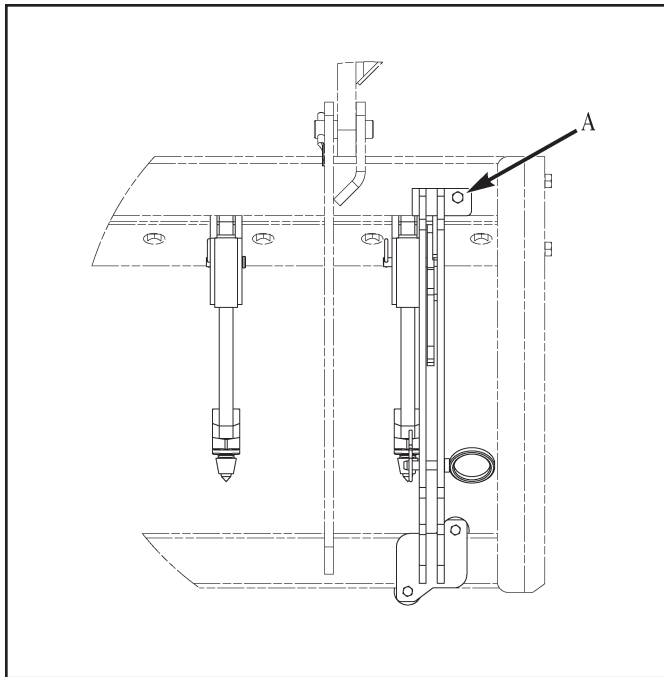

Figure 4. Top View
8. Using the handle as a guide, center the handle latch assembly so that the handle is between the two bars of the assembly See Figure 4.
10. Mark the center of hole A (Figure 4). Remove handle latch assembly. Drill a 13/32" hole.